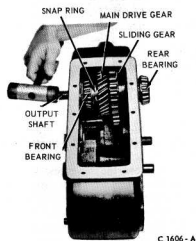

FIG. 8—Removing Front Output Shaft
16. Wedge the front output shaft front bearing away from the main drive gear to allow removal of the snap ring from its groove in the shaft. Then, tap the shaft and rear bearing out of the case (Fig. 8).